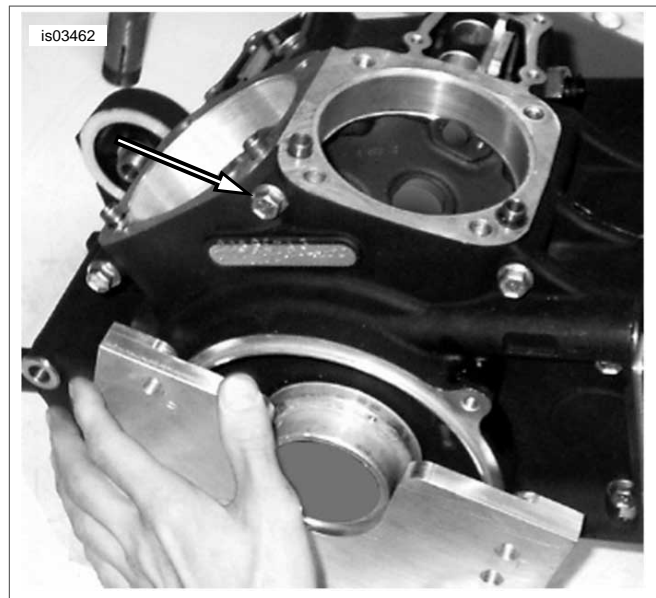

Figure 2. Engine Crankcase in Engine Cradle
5. Bolt engine case together with the stock hardware, except the top center screw between the cylinders (Figure 2), and tighten to the specifications listed in the Service Manual.
- c. Install left support plate (1 or 7) to base plate (2) with four screws (10) for early models or three screws for later models. Tighten screws to 120 **in-lbs** (13 Nm).
- e. Install right support plate (3), with the appropriate side facing the engine cradle assembly, to the base plate (2) with three screws (10) and washers (23). Tighten screws to 120 **in-lbs** (13 Nm).
9. Lubricate two 1/4 inch screws (11) with SAE 20w50 Harley-Davidson motorcycle oil. If the front cylinder is being bored, install the screws in the right support plate holes marked "F". If the rear cylinder is being bored, install the screws in the alignment plate holes marked "R". This will align the cylinder spigot bore perpendicular to the base. Do not tighten at this time.
10. Lubricate two 1/4 inch screws (11) and one 5/16 inch screw (14) with SAE 20w50 Harley-Davidson motorcycle oil. If the front cylinder is being bored, install the screws in the left mounting plate holes marked "F". If the rear cylinder is being bored, install the screws in the mounting plate holes marked "R". This will align the cylinder spigot bore perpendicular to the base. Do not tighten at this time.
11. See Figure 2. Install T-pin (Figure 10, Item 15) into the alignment plate in the hole locations shown. If the front cylinder is being bored, install the T-pin in the alignment plate hole marked "F". If the rear cylinder is being bored, install the T-pin in the alignment plate hole marked "R". It may be necessary to rotate the engine case slightly in order to install the T-pin.
12. Tighten screws (11) to 90-120 **in-lbs** (10-13 Nm).
13. Tighten screws (14) to 156-180 **in-lbs** (18-20 Nm).